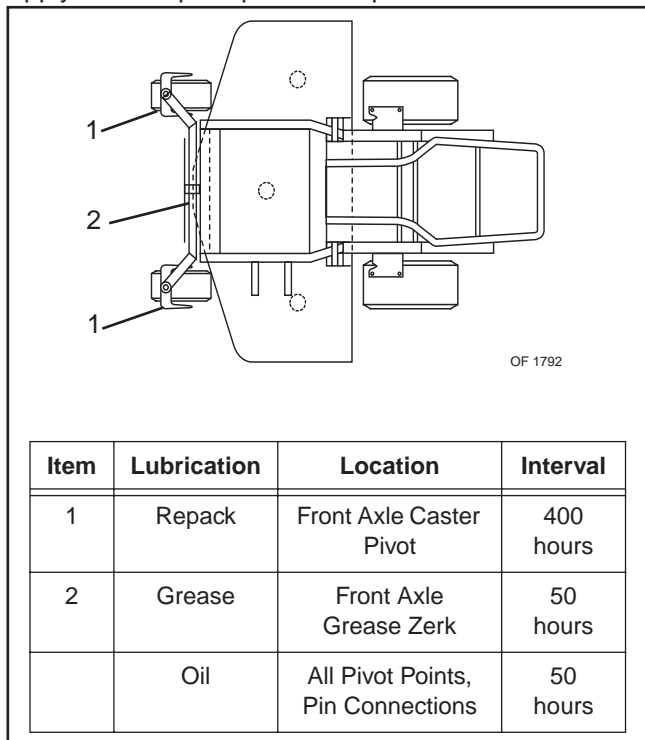

Figure 8
Lube fitting locations are: front axle pivot (1) (Figure 8)